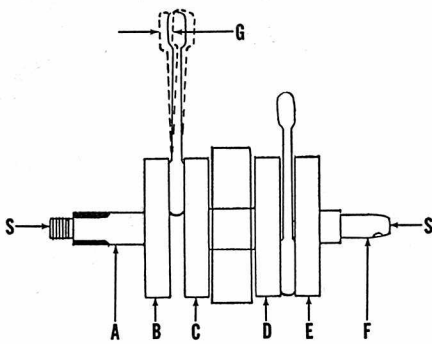

Fig. Y5-15—Refer to text to check crankshaft for correct assembly or wear.
**CONNECTING RODS AND CRANKSHAFT.** The crankcase halves must be separated to remove the crankshaft. Connecting rods, crankpins, rod bearings and the center main bearings are removed by pressing the crankshaft apart. The crankshaft should be disassembled **ONLY** if required tools are available to correctly check and align the reassembled crankshaft. If side shake (G—Fig. Y5-15) at piston pin end of connecting rod exceeds 0.08 inch (2MM), the connecting rod, crankpin and lower bearing should be renewed. Shake (G) should be 0.032-0.039 inch (0.8-1.0MM). Side clearance of connecting rod between the crankshaft counter weights can be measured with a feeler
gage. Side clearance should be 0.0039-0.012 inch (0.1-0.3MM). With crankshaft supported between lathe centers (S—Fig. Y5-15), maximum eccentricity when measured with dial indicator at points (A & F) should not exceed 0.0012 inch and should not exceed 0.0024 inch at points (B,C,D & E).